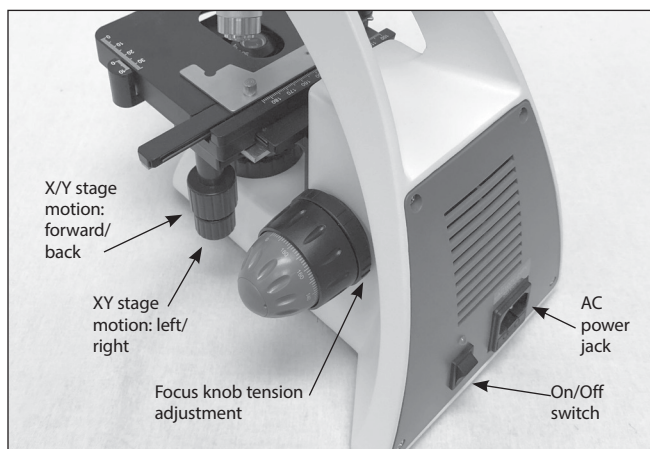

Figure 2. CM-1 controls
9. Adjust the X/Y stage using the motion controls (**Figure 2**), until the specimen on the slide is directly above the light coming through the condenser.
Focusing is achieved by rotating the large focus knob on either side of the CM-1. There is a course and fine focus section to the knob, so use the course knob for getting close to focus, and then use the fine section to achieve perfect focus. Focus tension can be adjusted using the tension ring, located between the microscope housing and the course focus knob, on the side of the microscope next to the X/Y adjustment knobs (**Figure 2**). Rotate the tension ring away from the housing and towards the focus knob to increase the focus wheel tension, and rotate it towards the microscope housing to decrease tension. If too little tension is used, the X/Y stage may slip down on its own, so make sure these is at least some tension set.
- Use the X and Y movement knobs (**Figure 2**) to position the object into the path of the light coming through the condenser below the stage.